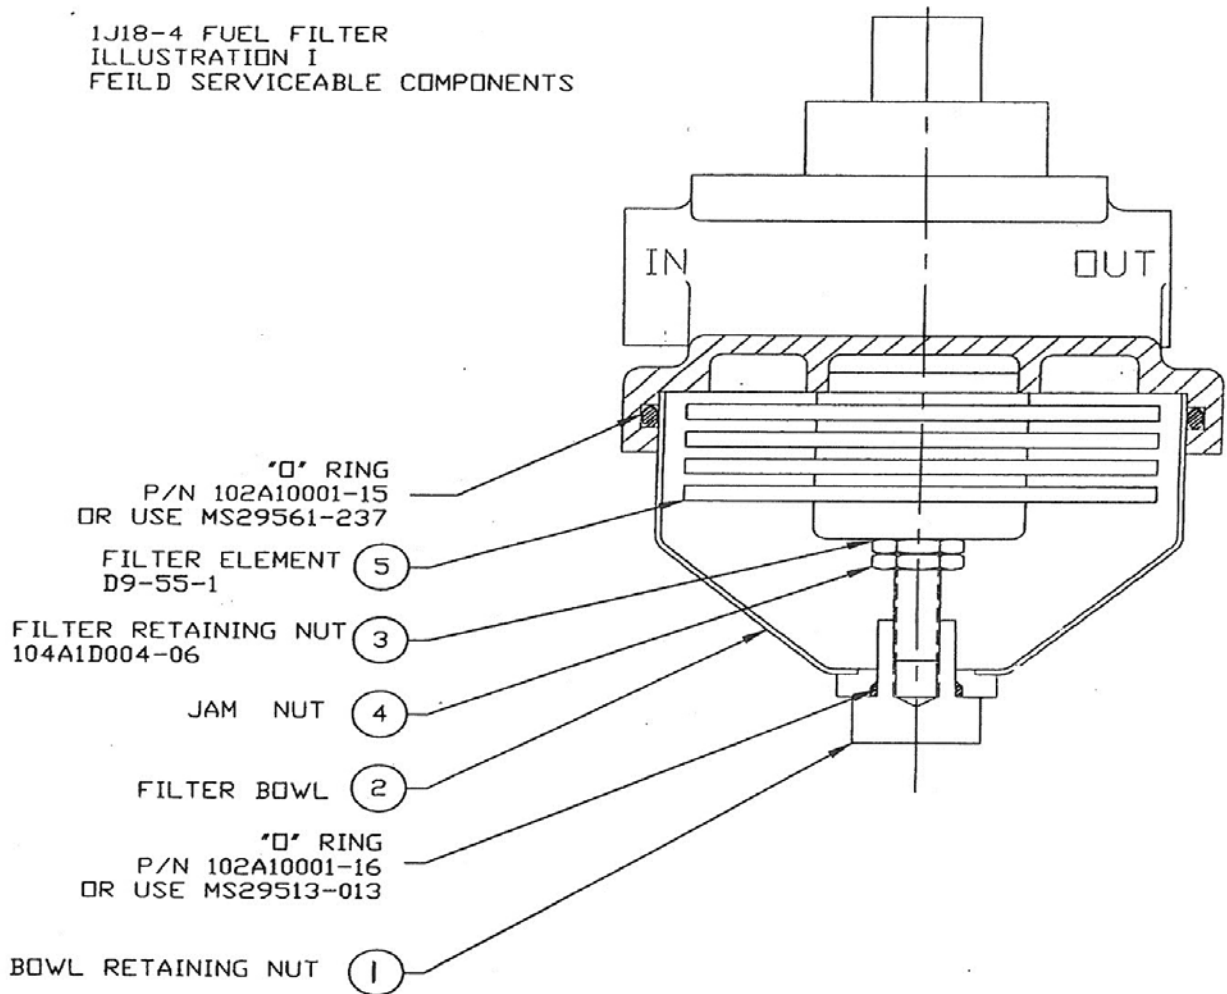

FIGURE 114-6 REPLACEABLE PARTS
1. Refer to figure 114-6 for identification of parts during disassembly and re-assembly.